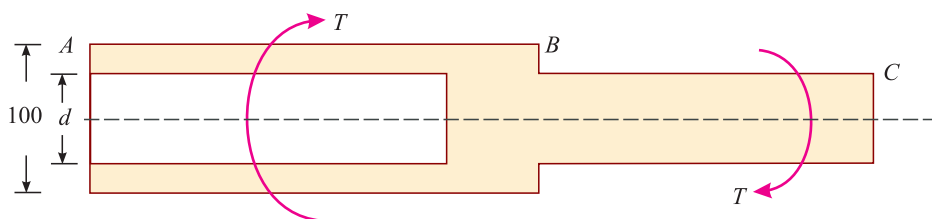

Fig. 27.8
1. A steel shaft ABC is subjected to two equal and opposite torques as shown in Fig. 27.8.